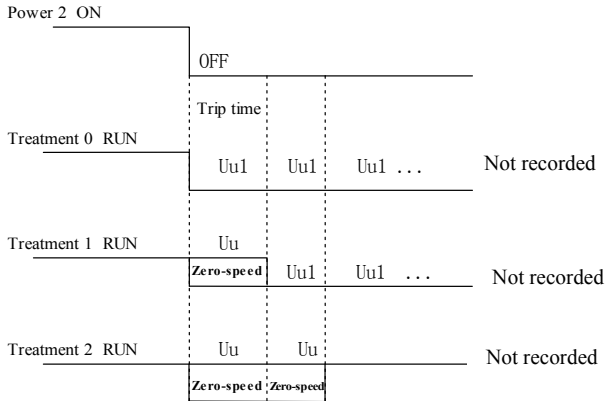

Fig. 5-1-8 Trip-free diagram
- ◆ If under-voltage occurs at stopped state, it only give an alarm of Uu, at this time, the motor cannot be started. As shown in Fig. 5-1-8:
- ◆ If under-voltage occurs during running, it will give an alarm of Uu or Uu1 as shown in Fig. 5-1-8; when Uu occurs, the pulse will be locked and the inverter will run at 0Hz frequency. Uu will disappear after the recovery; when Uu1 occurs, the inverter will stop, if the voltage continues to drop to 300V or less, it will not be regarded as a fault record or a fault output; it will record fault Uu1 after the recovery.